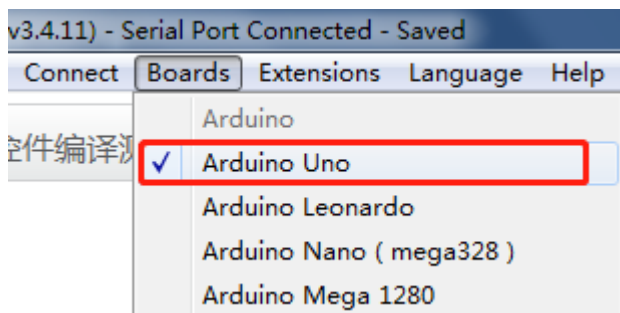
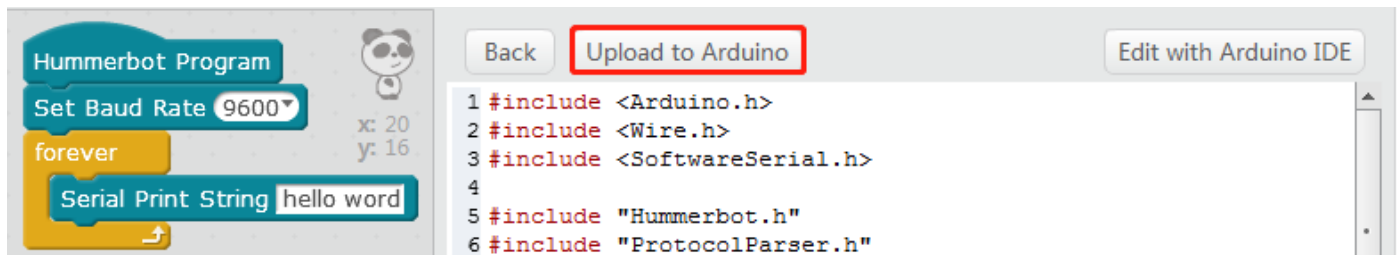

Figure 2-13
Figure 2-15
- 1) Select the type of control board to transfer the program, select “Control board→Arduino Uno”, as shown in Figure 2-13; select “Edit→ArduinoMode”, as shown in Figure 2-15.